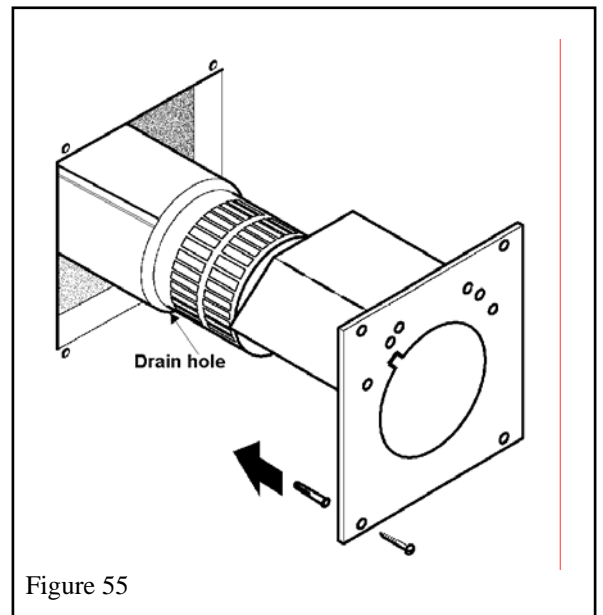

Figure 55
2. Fit the vent unit fully over the appliance inlet and outlet collars pushing on firmly. *Make sure that the drain hole is at the bottom – the seam will be through the notch in the wall plates – See figure 55.*
4. Screw the plate to the wall with 4 screws provided. See figure 55.